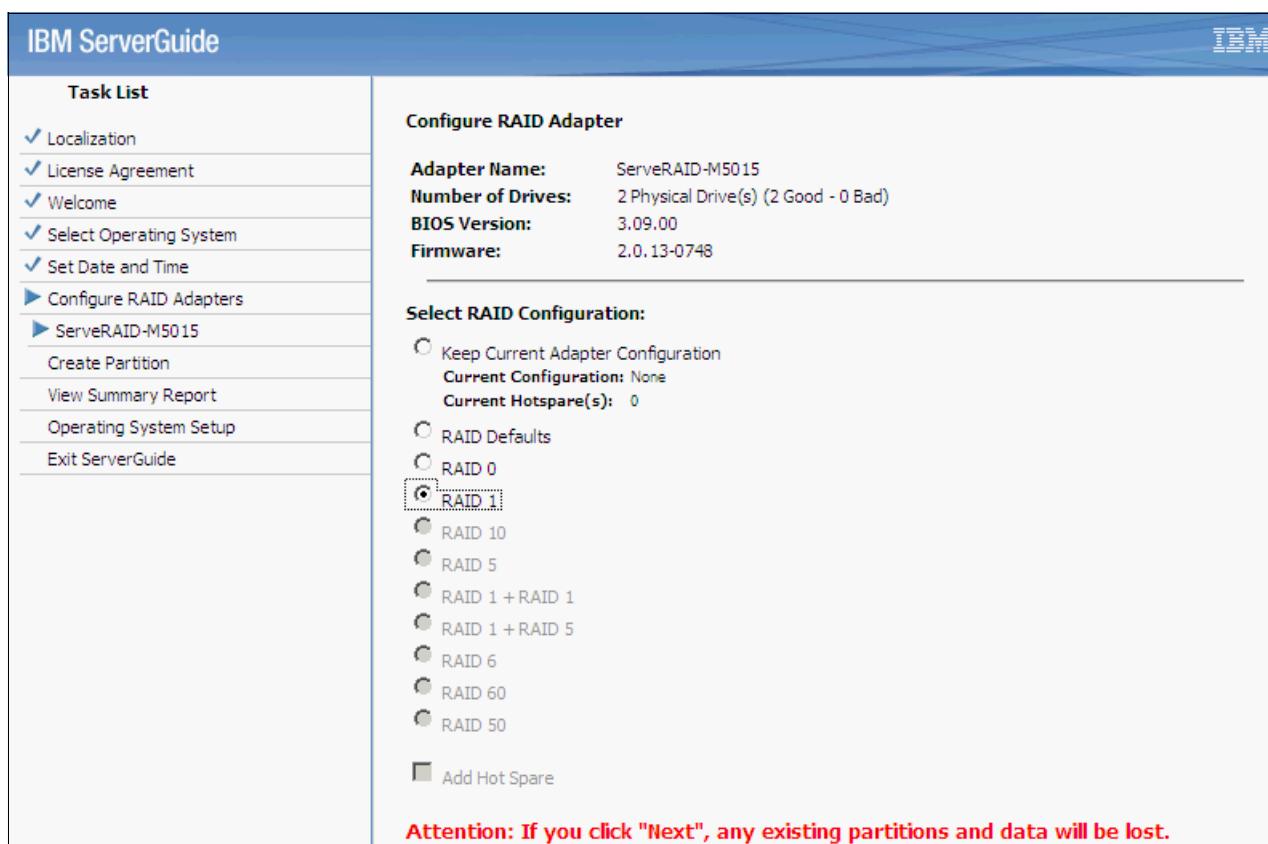

Figure 9-51 RAID configuration panel
11. Create a RAID configuration. If you previously created a RAID adapter, ServerGuide detects this configuration and displays it under Keep Current Adapter Configuration. Select a RAID configuration and click **Next**, as shown in Figure 9-51.